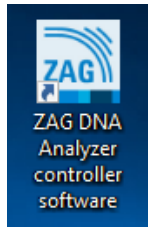

Figure 9 ZAG DNA Analyzer software icon
- 1 To log into the software, select the ZAG DNA Analyzer software icon (Figure 9).